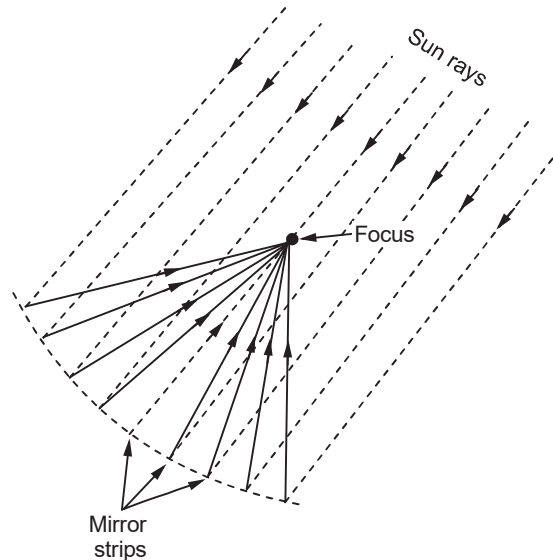

Fig. 2.8.3 Mirror strip collector
- Refer to Fig. 2.8.3. A mirror strip collector has a number of planes or slightly curved or concave mirror strips which are mounted on a base.